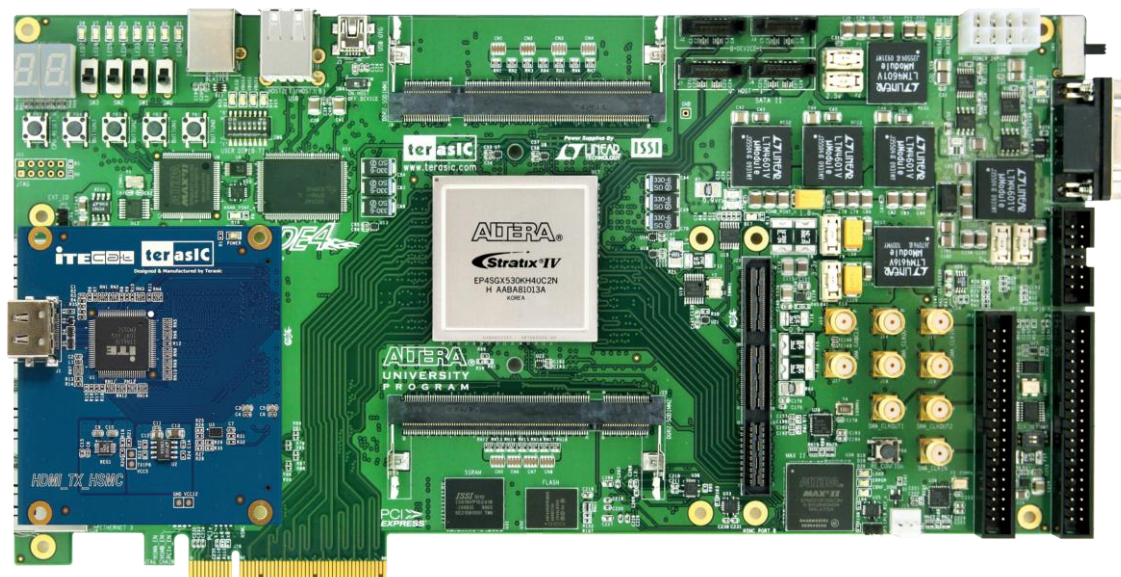

Figure 1-2 Connect HDMI\_TX\_HSMC daughter board to DE4 board
**Figure 1-2** shows a HDMI\_TX\_HSMC daughter board connected to the HSMC connector of DE4. Due to high speed data rate in between, users are strongly recommended to screw the two boards together.